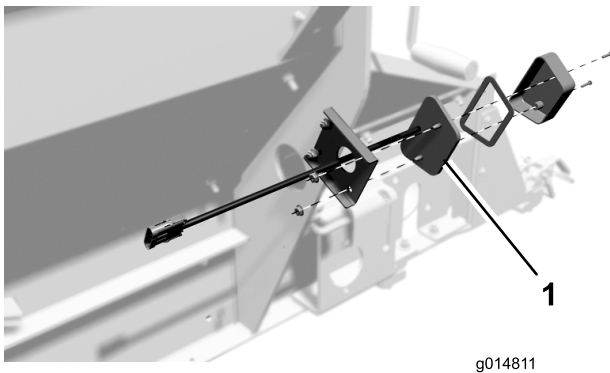

Figure 5
1. Light bracket (2)
7. Mount a tail light assembly to each bracket with (2) pal nuts (Figure 5). Make sure the light wires are routed through the bracket before mounting. Do not over-tighten the nuts